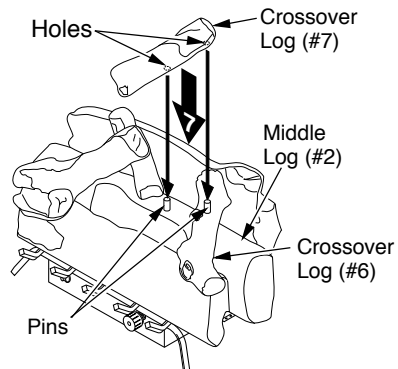

Figure 31 - Installing Crossover Log #7 (Model CCL3930PTB/NTB Only)
7. For CCL3930PTB/NTB only: Locate holes on the bottom of crossover log (#7). Slide onto the pins located in crossover log (#6) and middle log (#2). See Figure 31.